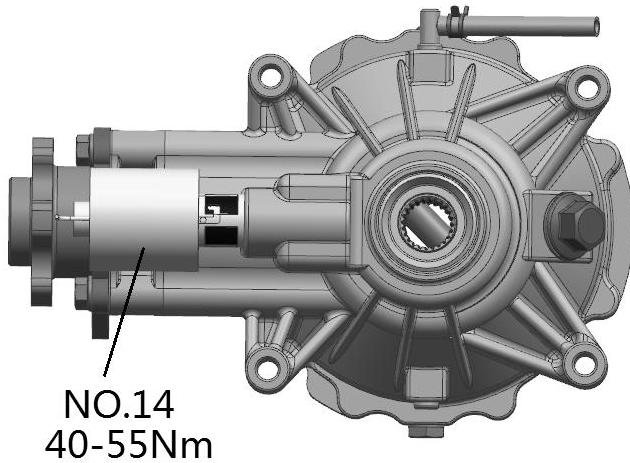

Fig20
11.If previously removed, install the Diff Solenoid (NO.14) into the carrier cover. Torque solenoid to **40-55Nm**. →Fig 20